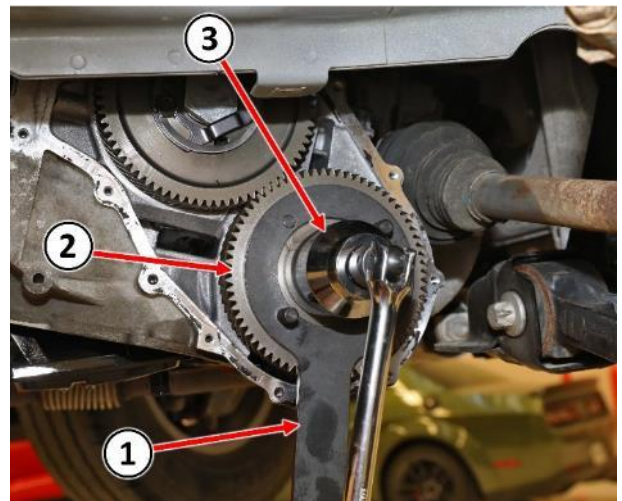

Figure 22 – Transfer Gear Nut
33. Install Holder 9739 (1) onto the transfer gear (underdrive compounder side) (2) (Figure 22).
34. Using a 50mm socket (3), remove the nut securing the transfer gear (underdrive compounder side) (2) (Figure 22).